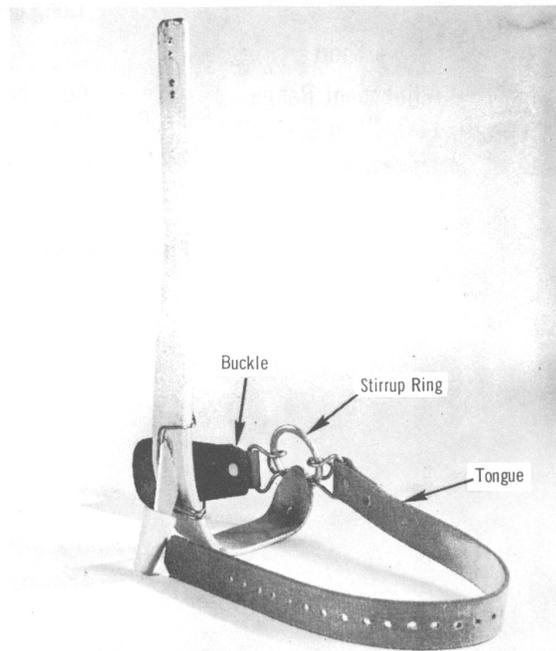

Fig. 5 — C Climber Foot Strap Installed on Right Climber
2.05 C Climber Foot Straps, Fig. 5, are used on the stirrup rings of adjustable climbers to fasten the climber to the foot. A C Climber Foot Strap consisting of a tongue and buckle that can be clipped to the climber stirrup ring is placed on the climber so that the buckle will be across the foot instep when fastened.